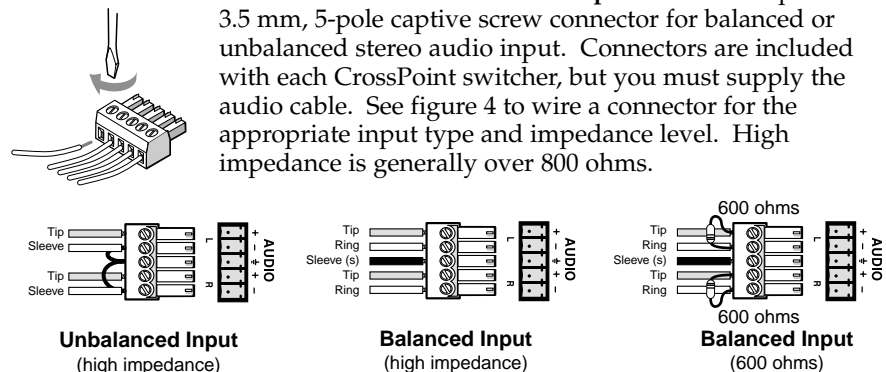
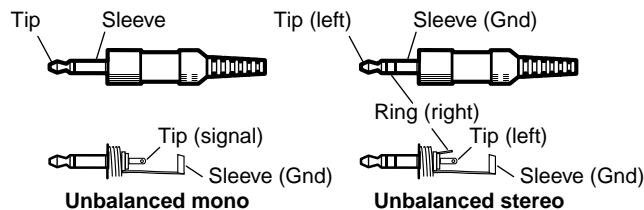

Figure 4 — Captive screw connector wiring for inputs
Figure 5 — Phono audio connectors
- ④ **Connections for balanced and unbalanced audio inputs** — Each input has a 3.5 mm, 5-pole captive screw connector for balanced or unbalanced stereo audio input. Connectors are included with each CrossPoint switcher, but you must supply the audio cable. See figure 4 to wire a connector for the appropriate input type and impedance level. High impedance is generally over 800 ohms.
NOTE When making connections for the CrossPoint Series Switcher from existing audio cables, see figure 5. A mono audio connector consists of the tip and sleeve. A stereo audio connector consists of the tip, ring and sleeve. The ring, tip, and sleeve wires are also shown on the captive screw audio connector diagrams, figure 4 and figure 6.